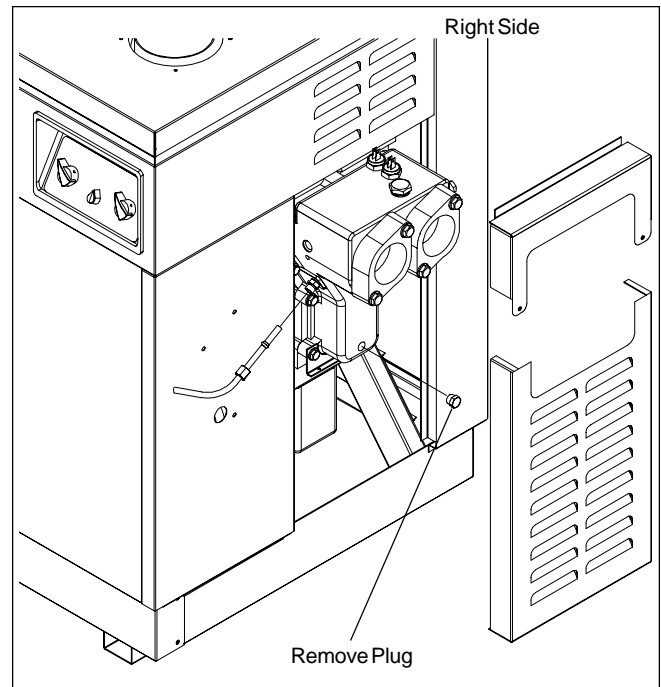

Figure 27. Water Header Draining.
3. Completely drain the heater before the first frost. To drain the heater, remove the side panel, and remove the drain plug (see Figure 27).
5. Disconnect the copper tubing from the pressure switch fitting (see Figure 27).
1. Attach the pressure switch fitting to the copper tubing (see Figure 27).